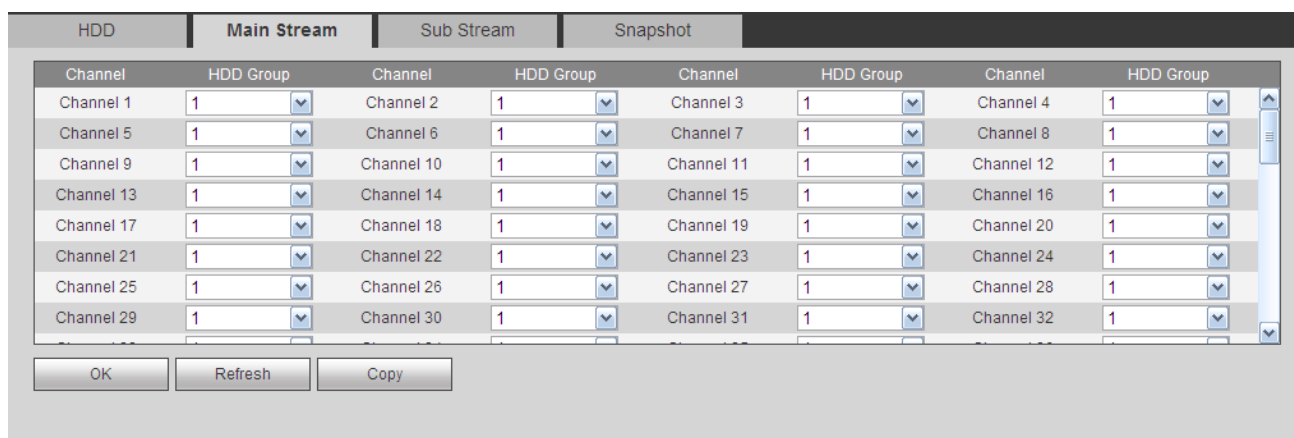
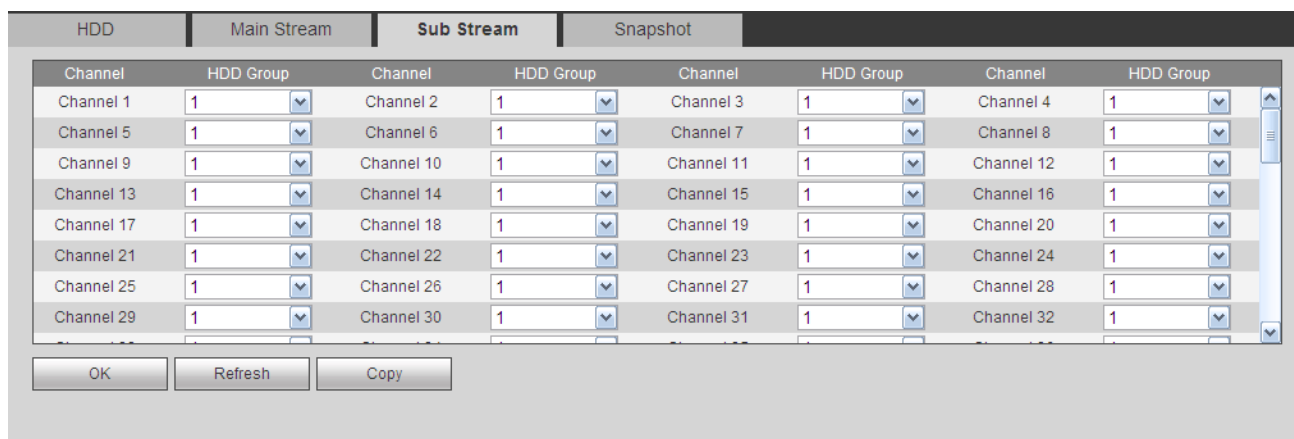
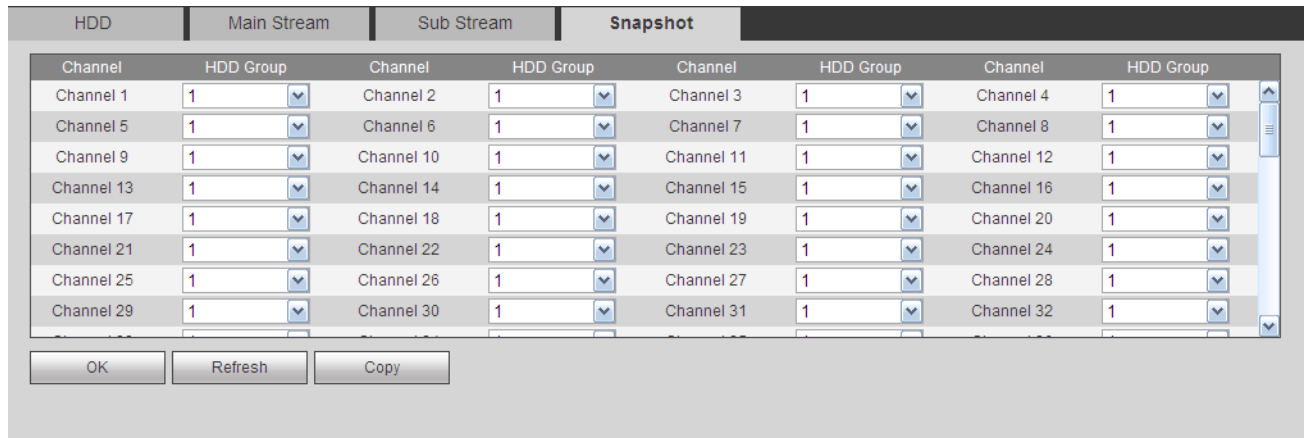

Figure 5-109
Figure 5-110
Figure 5-111
- Step 3 After set HDD group, click main stream/sub stream/snapshot tab to save main stream, sub stream, snapshot image to different HDD group. See Figure 5-109, Figure 5-110, Figure 5-111